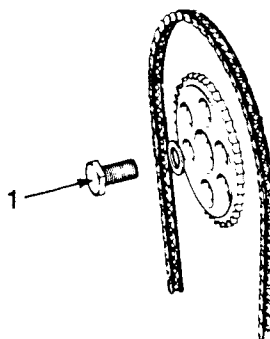

Fig B4.91
- (4) Refer to Fig B4.91. Remove the fixing (1) for the camshaft sprocket and remove the sprocket.